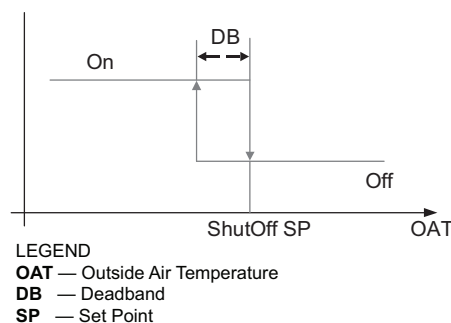

Fig. 80 — Hysteresis Settings
Hysteresis setting (DB) defaults to 2°F (–16.6°C). See Fig. 80.